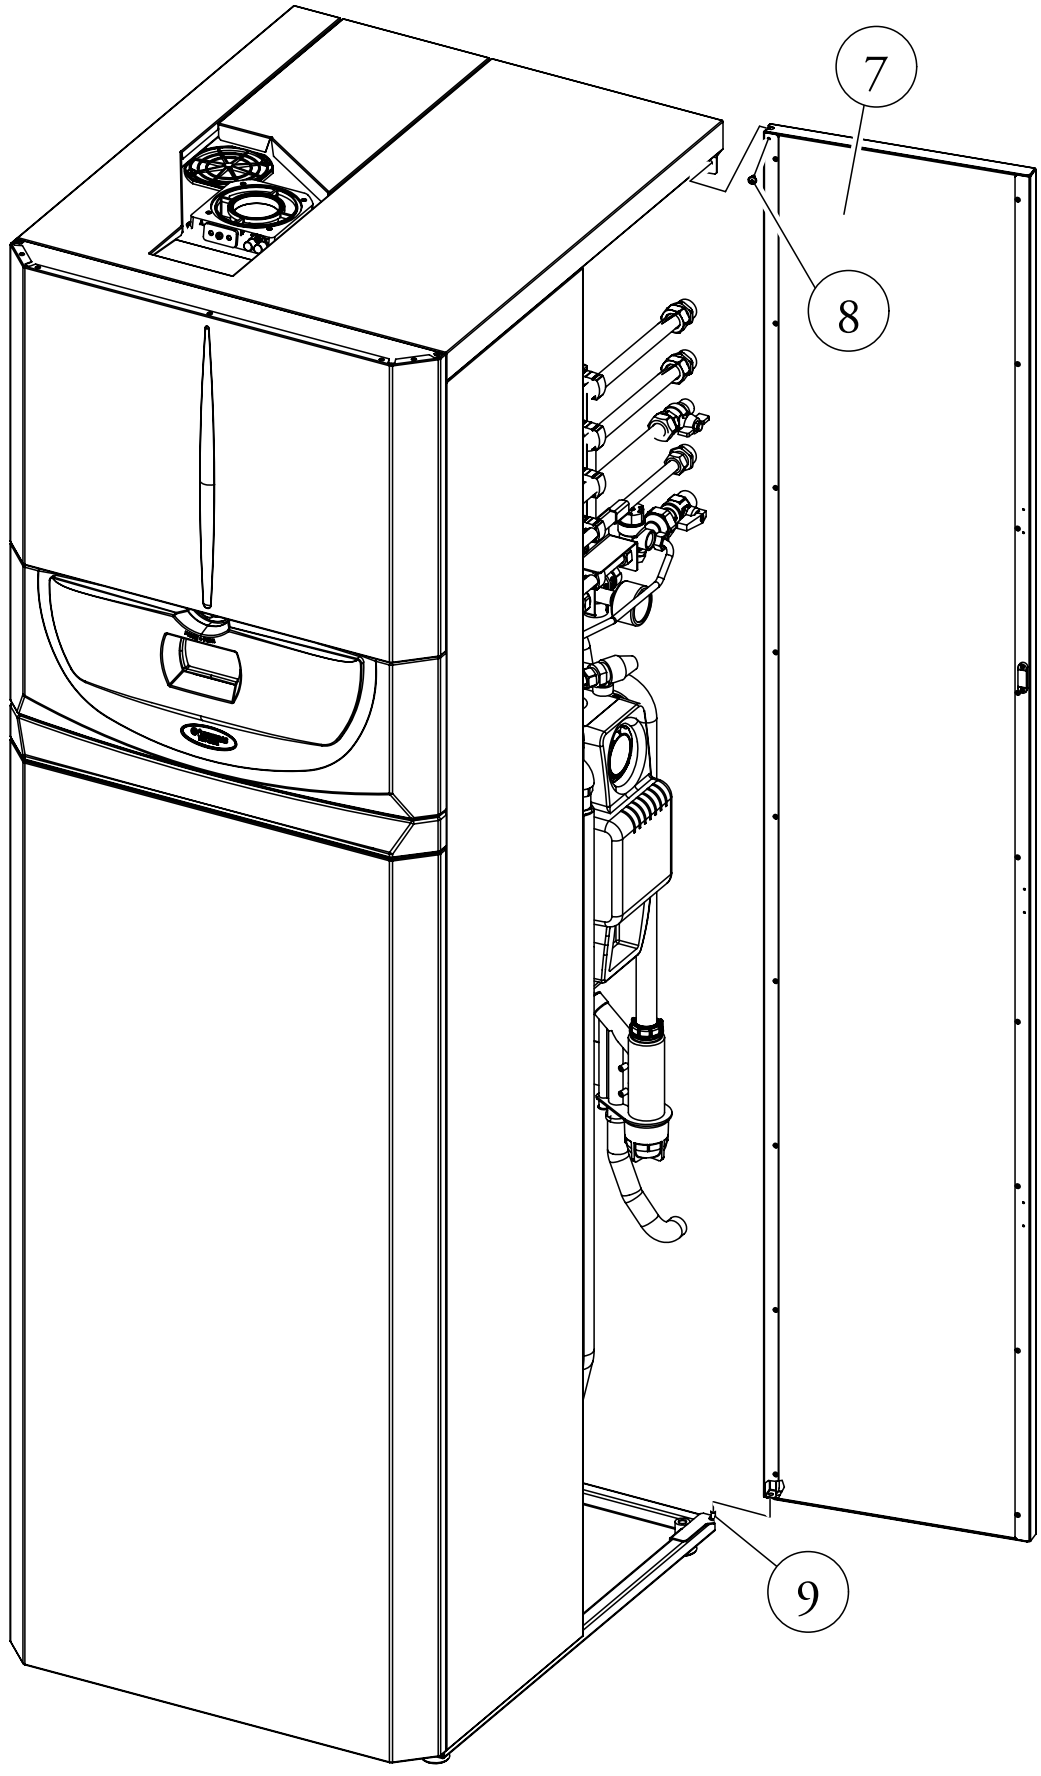

Fig. 3-7
- Open the door (2) by pressing it in the centre to make it swing.
- Remove the rubber protection caps (3) and loosen the two screws (4).
- Disassemble the upper front (5) pushing it upwards in a way to free it from the fixing slots and pulling it towards yourself (Part. A).
- Lift the control panel, gripping it at the sides to make it exit from the fixing pins (6).
- Disassembly of the right lateral door (Fig. 3-7).
- Open the door (7) making it turn by at least 90° outwards.
- Remove the screw (8) in the top corner of the door (7).
- Release the door (7) from the bracket just released from the screw (8) bending it outwards and sliding it off of the lower pin (9).